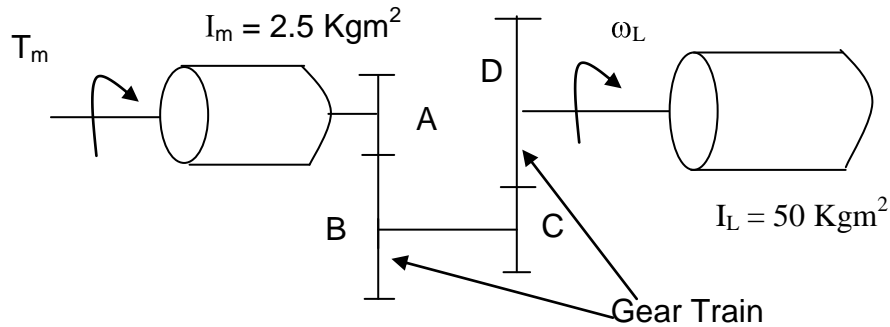

Figure Q4 (a) A rotational mechanical system
4. (a) Figure Q4 (a) illustrates a rotational mechanical system with a compound gear train.